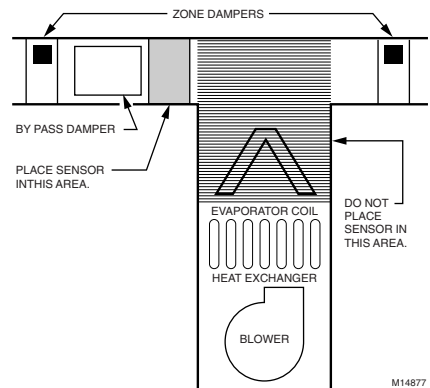

Fig. 2. DATS mounting location.
1. Locate the DATS on the supply trunk between the bypass damper and the evaporator coil and/or heat exchanger. If a bypass damper is not used, locate the DATS between the zone dampers and the evaporator coil and/or heat exchanger. See Fig. 2.